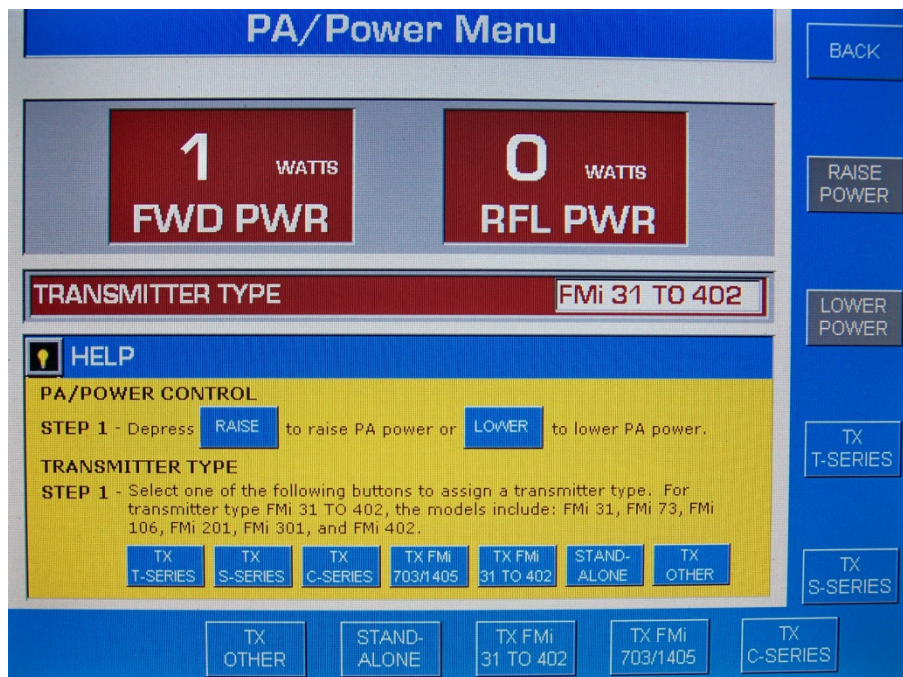

Figure 3-41. PA POWER MENU
The PA Power Menu is used to adjust the FXi output power (refer to Figure 3-41). In some IBOC modes the raise/lower buttons are not active and they will grey out. To raise or lower the exciter output power, proceed as follows:
1. On the Main Menu, depress PA/POWER. The PA/Power Menu will appear (refer to Figure 3-41).